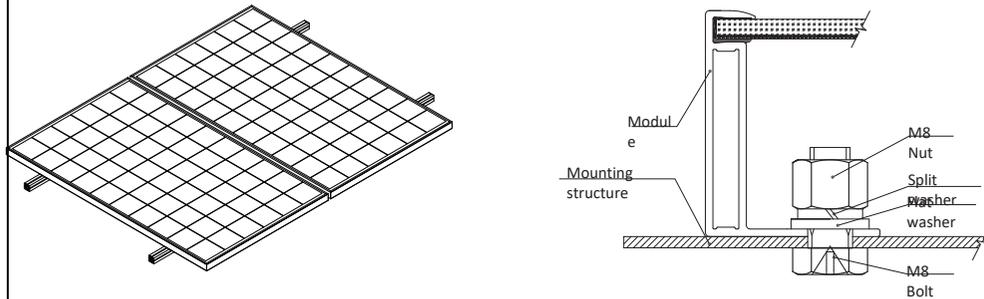

Figure 1 Mounting hole installation
1. Mounting hole installation: (Figure 1)